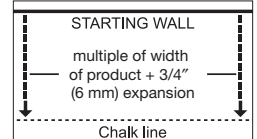

Figure 7
- In at least two places at least 18" (46 cm) from the corner, measure out equal distance from the starting wall (Figure 7) the face width of the starter board plus 1" (2.5 cm) (do not include the width of the tongue in this measurement. Mark these points and snap a chalk line through them. This measurement allows for the required 3/4" (19 mm) expansion and the width of the tongue.